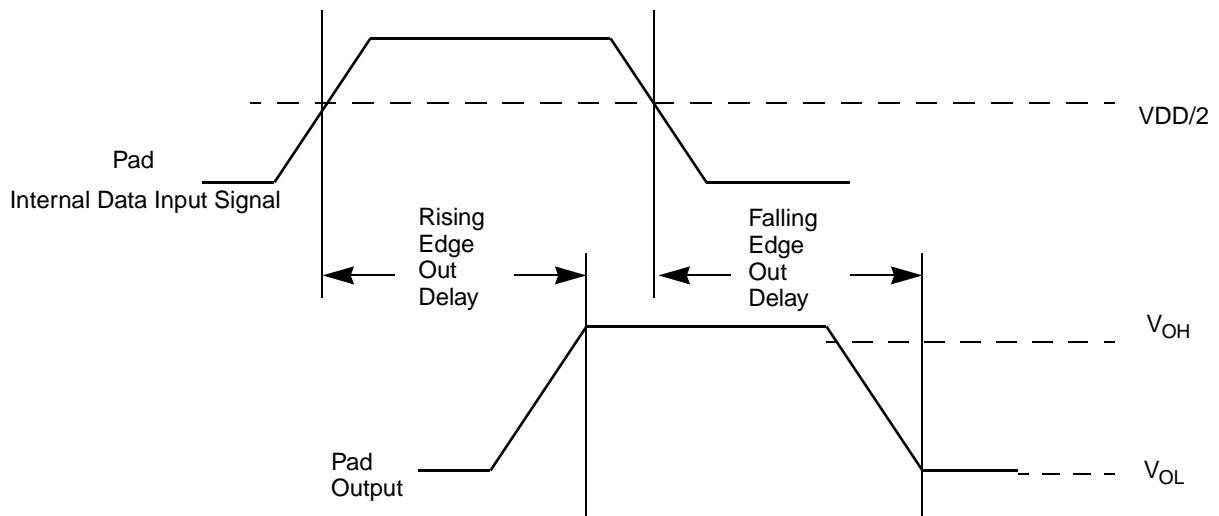

Figure 6. Pad output delay
- ⁸ Output delay is shown in Figure 6. Add a maximum of one system clock to the output delay for delay with respect to system clock.